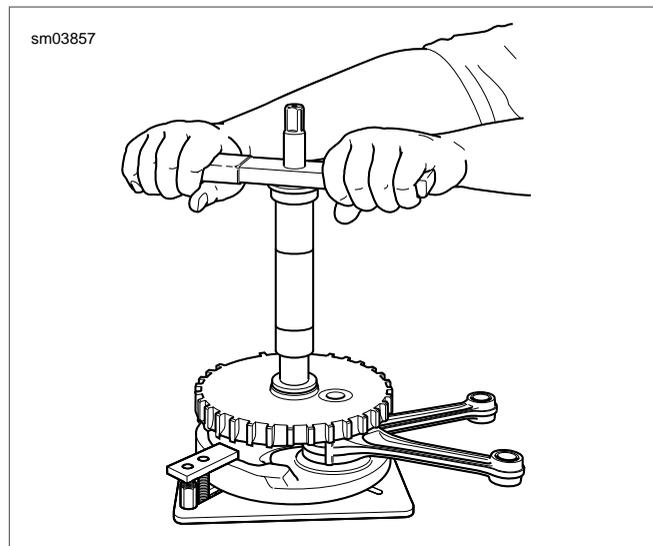

Figure 3-137. Press Inner Race onto Sprocket Shaft: Operation
5. See Figure 3-137. Rotate handle of tool in a clockwise direction until bearing inner race makes firm contact with thrust washer. Verify that thrust washer cannot be rotated by hand.